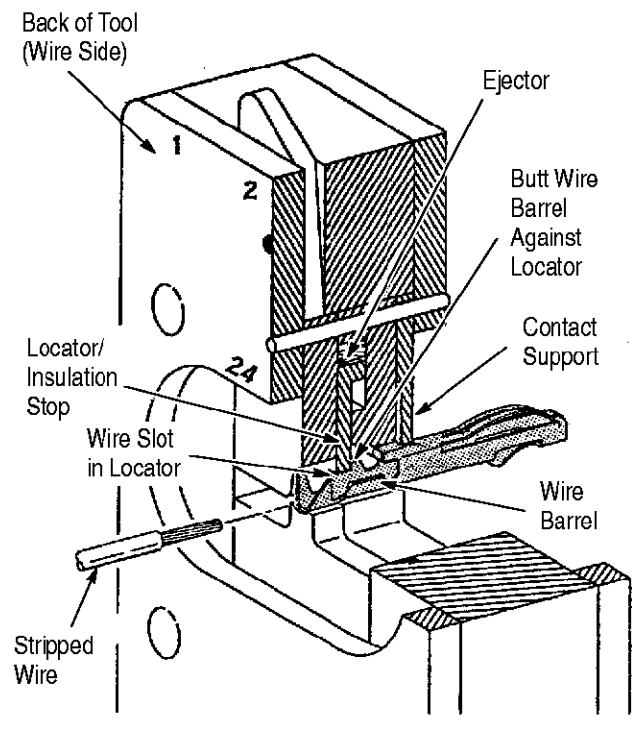

Figure 4
3. Looking straight into the back of the crimp section, insert the contact (insulation barrel first) into the front of the crimp section. Position the contact in the crimpers so that the locator enters the locator slot. See Figure 3. Now, push the contact in until the wire barrel butts against the locator/insulation stop. See Figure 4.
5. Insert a properly stripped wire through the wire slot in the locator and into the wire barrel of the contact until the insulation butts against the locator/insulation stop. See Figure 4.